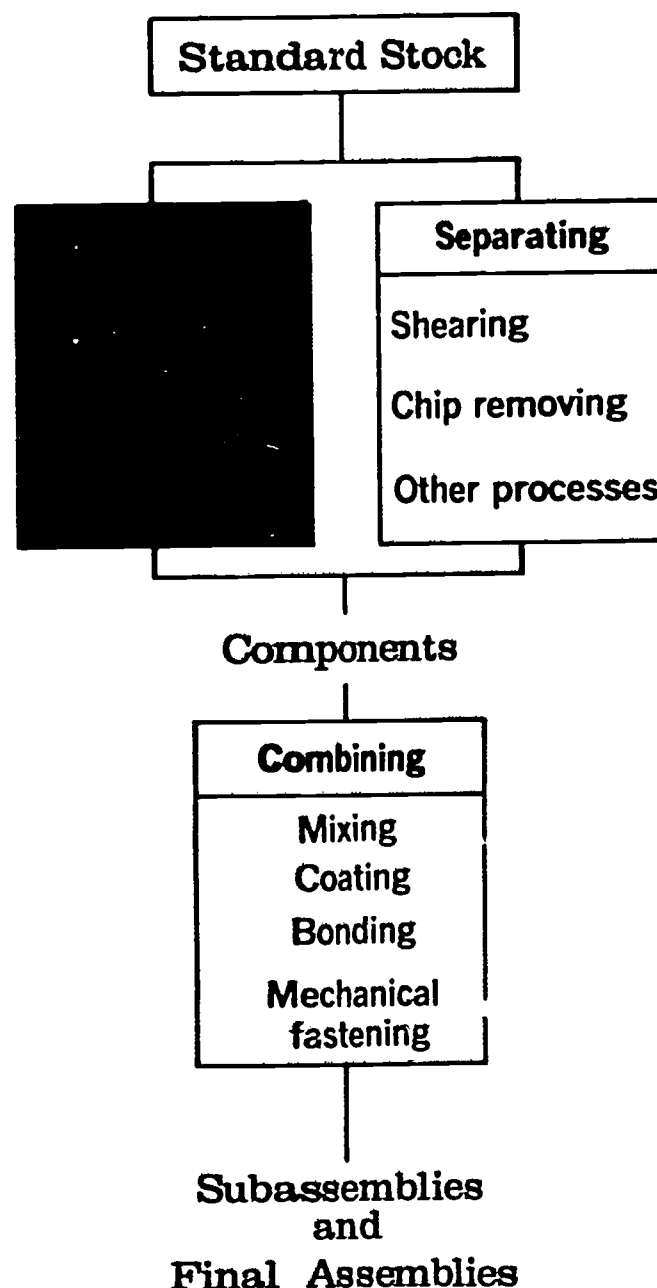

Fig. 49-1. Forming, in the shaded area above, is discussed in this reading.
In the last reading you learned about two ways to change standard stock into *components* (parts) and one-piece products. These two ways are *forming* and *separating*. You also learned about *combining* parts by *mixing*, *coating*, *bonding*, and *mechanical fastening*. In this reading, you will learn more about the three major ways to form standard stock. They are (1) *casting or molding*, (2) *compressing or stretching*, and (3) *material conditioning*, Fig. 49-1.